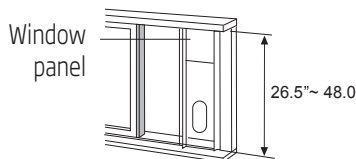

Fig. 13
2. Attach the window slider kit to the window stool. Adjust the length of the window slider kit according to the width of window, shorten the adjustable window kit if the width of window is less than 26.5 inches. Open the window sash and place the window slider kit on the window stool. See Fig. 13.